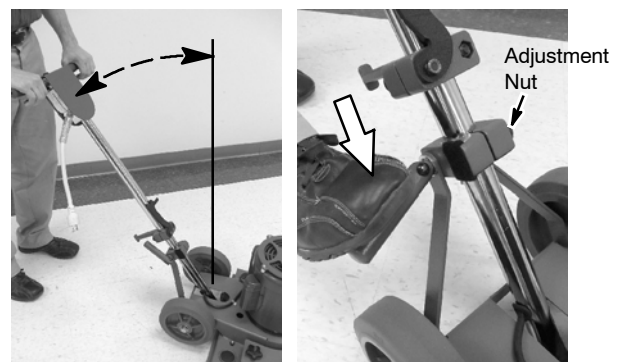

FIG. 5
2. Adjust the handle to a comfortable operating position and step down firmly on the handle adjustment lever to lock handle into position (Figure 5).